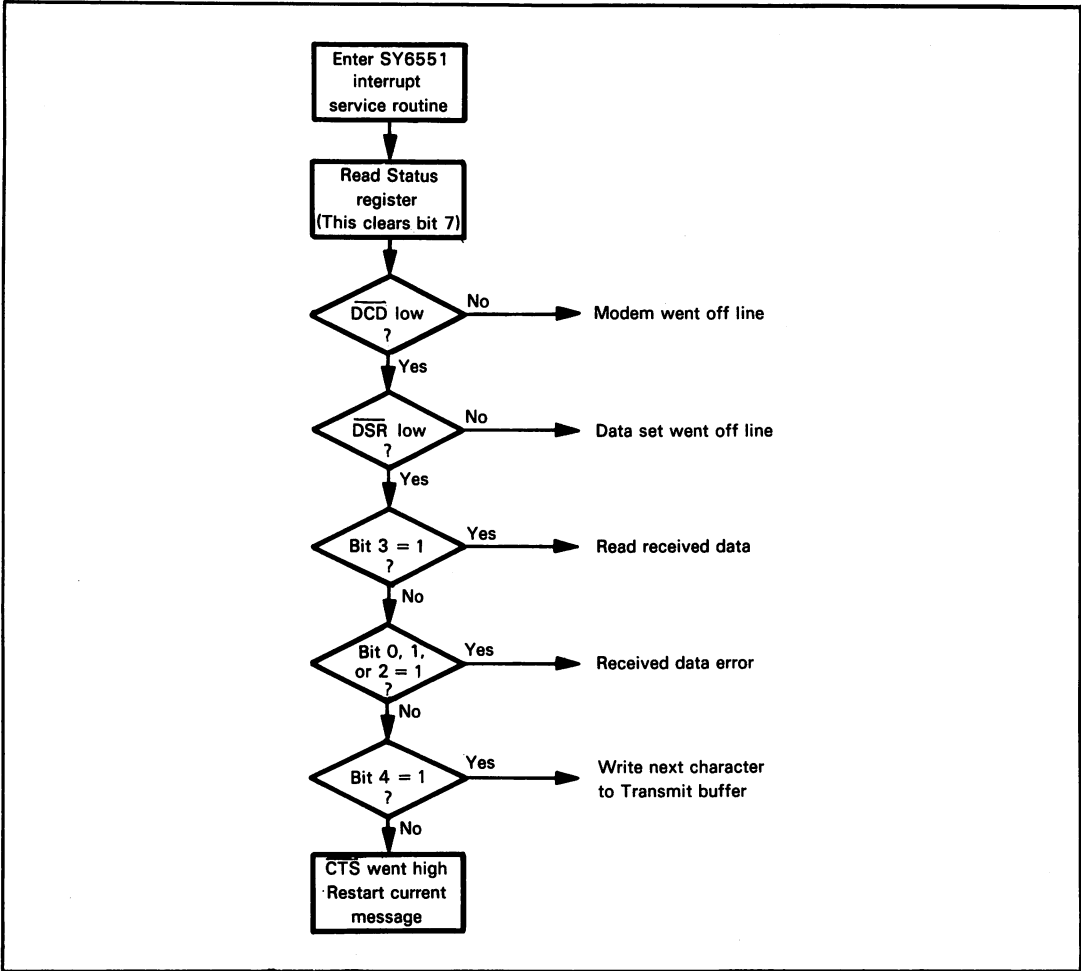

Figure 10-24. SY6551 Interrupt Service Routine. Status Register Testing Logic Portion
**A program controlling the SY6551 will usually be interrupt driven. Following an interrupt request, a service routine must read the Status register in order to determine the interrupt request condition. Figure 10-24 illustrates the sequence in which you should examine Status register bits.**